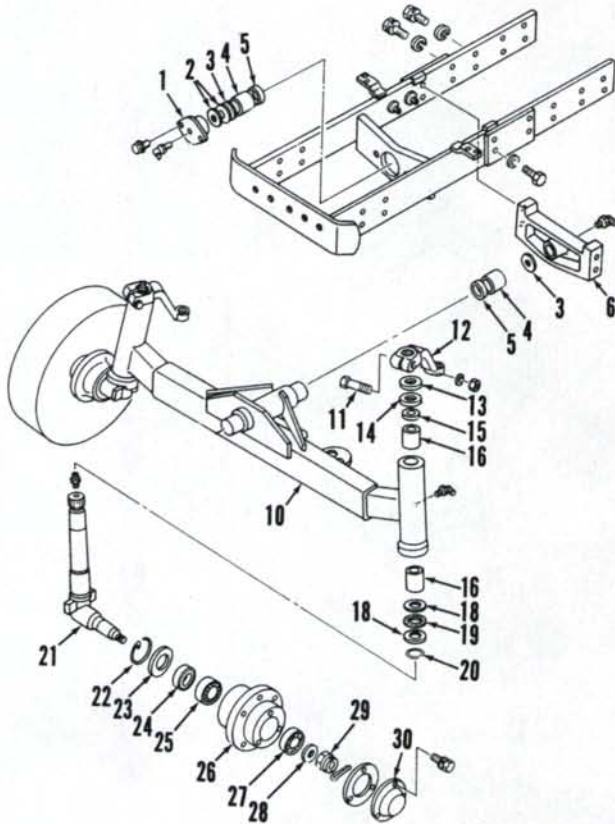

Fig. 3—Exploded view of fixed tread width front axle assembly used on Model 1320.
To remove front axle assembly, support tractor behind the axle and remove front wheels. Disconnect hoses from power steering cylinder and plug all openings. Unbolt and remove axle pivot front bearing retainer (1—Fig. 3, 4 or 5). Remove retaining cap screws from rear bearing support (6), then move axle rearward from front bearing support and lower axle from tractor.
To remove front wheel bearings, raise and support front of tractor. Remove wheel and tire. Remove hub cap (30—Fig. 3, 4 or 5) and retaining nut (29). Withdraw wheel hub (26) and bearings from spindle. On Models 1320 and 1520, remove retaining ring (22) and washer (23). On all models, remove wheel seal (24) and inner bearing (25) from wheel hub.
6. REMOVE AND REINSTALL. To remove spindles (21—Fig. 3, 4 or 5), raise and support front of tractor. Remove front wheels and wheel hub as outlined in paragraph 4. Remove clamp bolt (11) from steering arms (12), then tap spindle downward out of steering arm and axle. Drive bushings (16) out of axle if necessary.